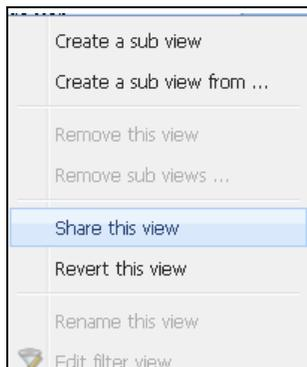

Figure 57. Contextual Subview Menu
1. Right-click the view to open the contextual menu and click **Share this View** (see Figure 57).